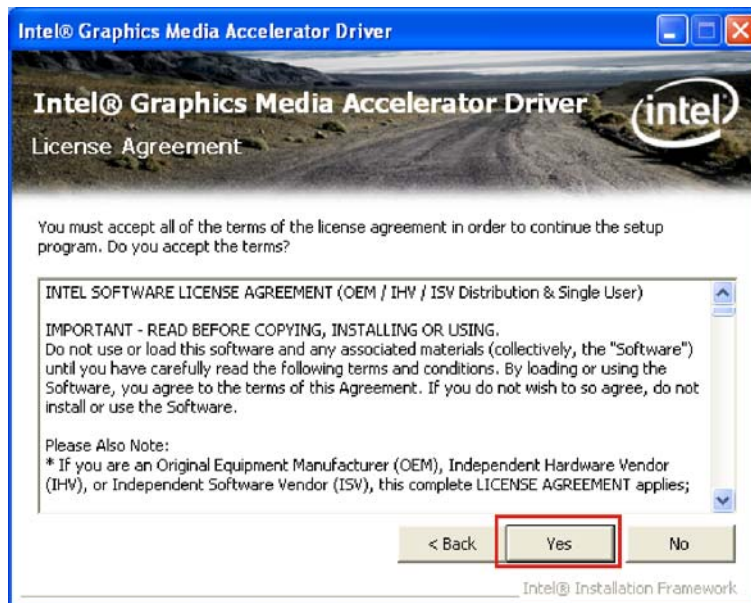

Figure 6-11: GMA Driver License Agreement
Step 8: The license agreement appears (**Figure 6-11**).